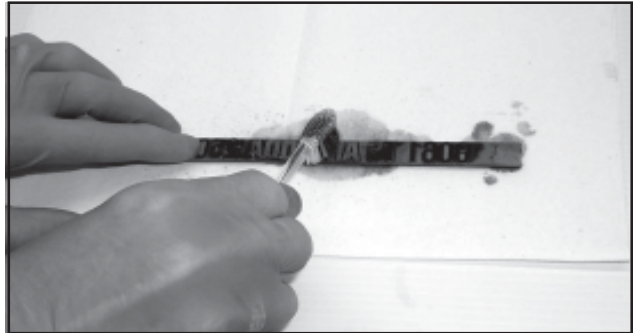

FIGURE 49
- 2 - Using the toothbrush, carefully scrub the face of the die to remove the contamination and old ink as shown in Figure 49. Add more soapy water as necessary and repeat the process until the die is clean. Rinse the dies in clean water.